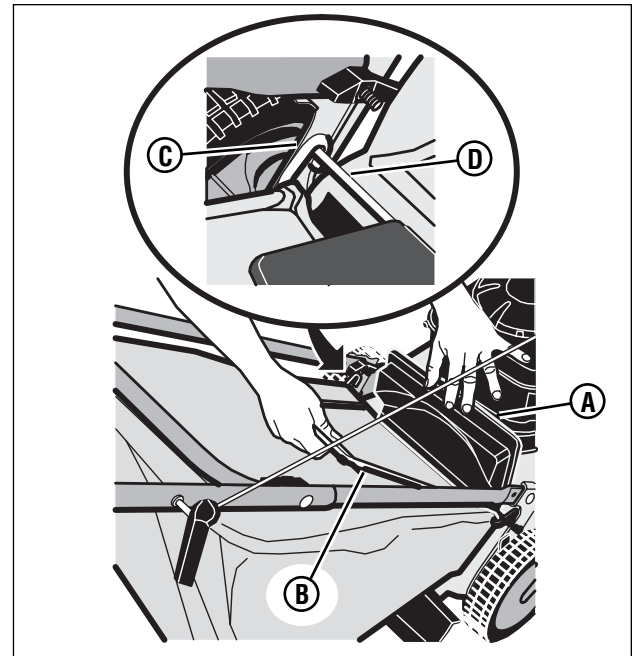

Figure 8: Mounting the grass bag
1. To mount the grass bag on the mower, raise the rear door (**A**, **Figure 8**). Holding the grass bag by the handle (**B**), mount the hooks (**C**) on either end of the grass bag frame assembly onto the rear door pivot rod (**D**). Lower the grass bag against the rear of the mower. Lower the rear door.